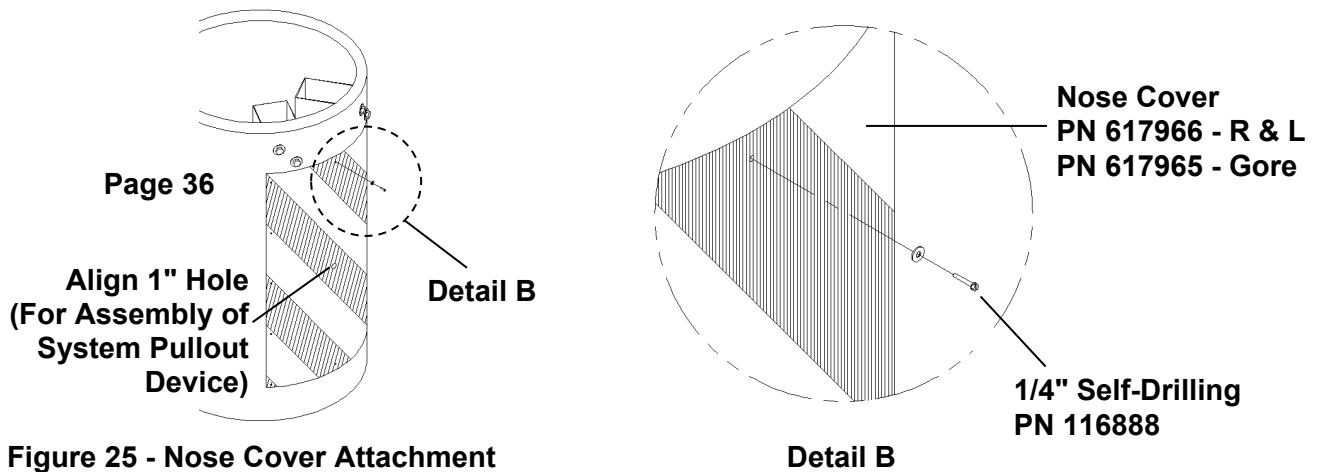

Figure 25 - Nose Cover Attachment
2. Align 1" diameter hole in Nose Cover with 1" diameter hole in Cylinder (Figure 25).